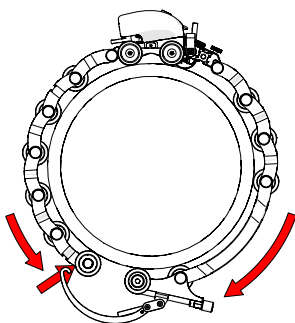

Fig. 149 - Hook buckle to catch link
7. Bring the buckle arm towards the catch link. Hook the buckle's arm to the middle axle of the catch link (Fig. 149). The buckle adjustment knob (Fig. 150-1) may have to be loosened to allow arm to reach catch link.